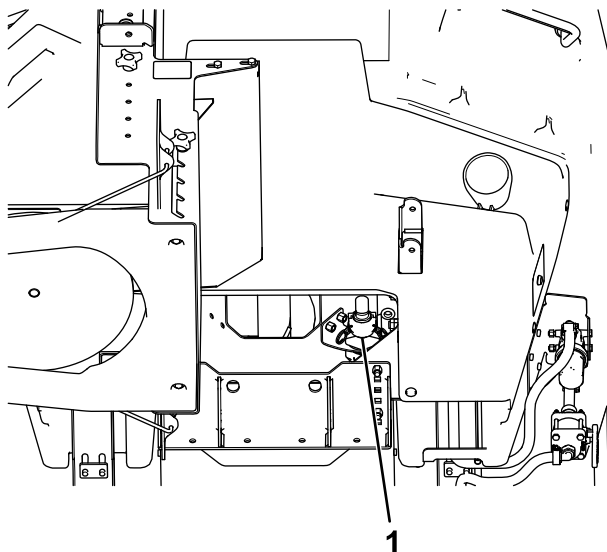

Figure 54
- Locate the spray nozzle underneath the rear cover (Figure 54).